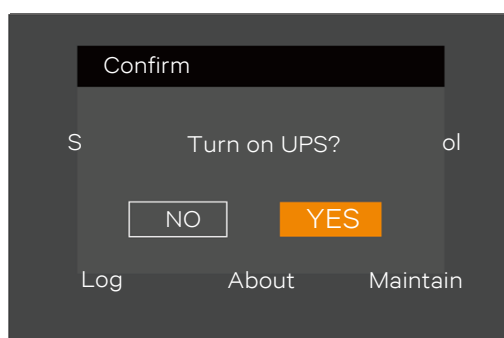

Figure 2-35 Turning on UPS
4. After setting corresponding parameters, press the power button for two seconds, and the LCD prompts a dialogue box shown in Figure 2-35.